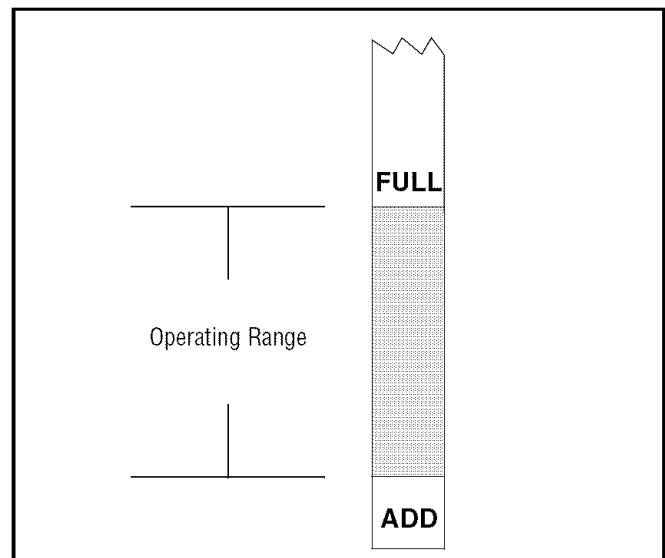

Figure 13
- Wipe the dipstick clean before pushing it all the way back into the oil fill tube. Withdraw the dipstick to check the oil level. Refer to Figure 13.
- Fill the crankcase until the oil level reaches the full (F) mark on the dipstick. Refer to Figure 13. Refer to the viscosity oil chart earlier in this section for information regarding the proper type of oil to add to the crankcase.
- **Slowly** pour oil into the fill tube. Fill the crankcase until the oil level reaches the full (F) mark on the dipstick (Refer to Figure 13).